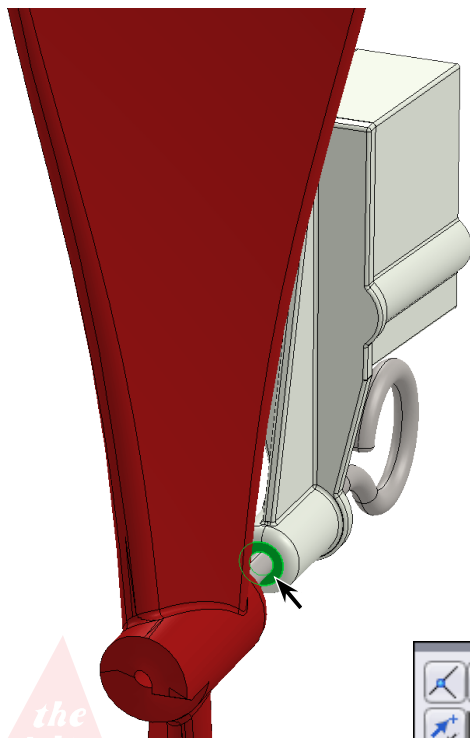

Fig. 10
Step 4. Click the **front face of Socket hub**, **Fig. 10**.